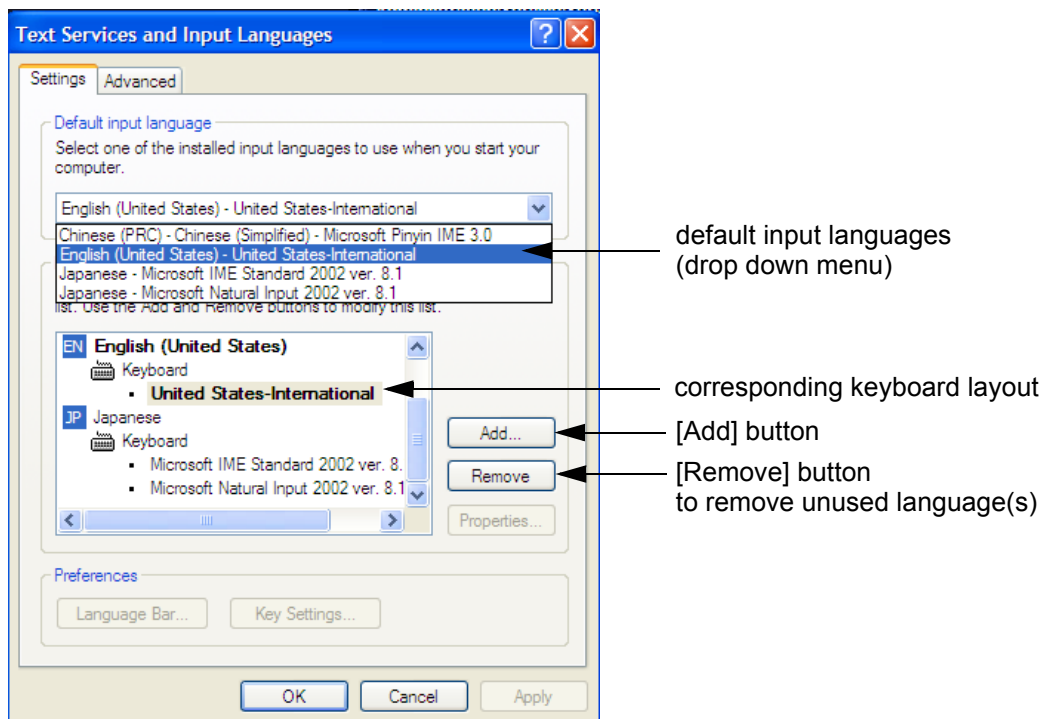

Figure 6-5 Default input language
- 7.) If not already done, select the default input language from the drop down menu (see: Figure 6-5). The corresponding keyboard layout is changed automatically.